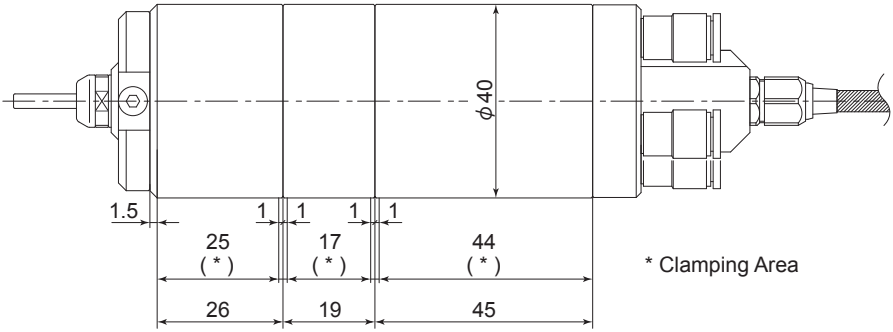
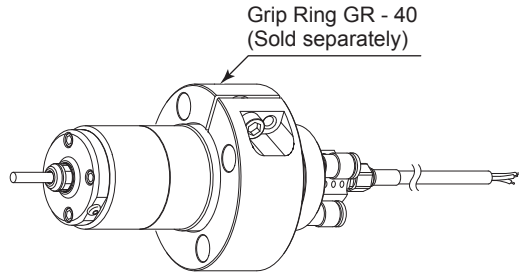

Fig. 3
Fig. 4
- When mounting the Air Bearing Turbine Spindle, be sure to secure within Clamping Area (Fig. 3 *) etched on the Spindle O.D. If the Spindle is installed incorrectly, damage to the internal components is possible.
- * When installing the Air Bearing / Turbine Spindle, it is recommended to use a " GR - 40 Grip Ring (sold separately)" (Fig. 4). If the GR - 40 - Grip Ring is being used, install it as shown in (Fig 3) below.